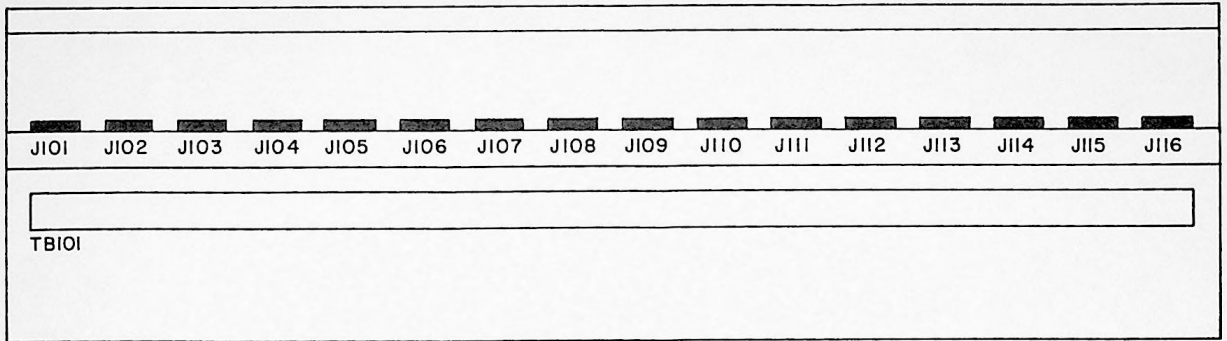

Figure 2-8. 212E-1 Broadcast Console, Amplifier Connector Locations
d. After the 212E-1 Broadcast Console is mounted, the modules may be plugged into their receptacles according to steps e. through k. Refer to figure 2-8 for layout of unit connectors.